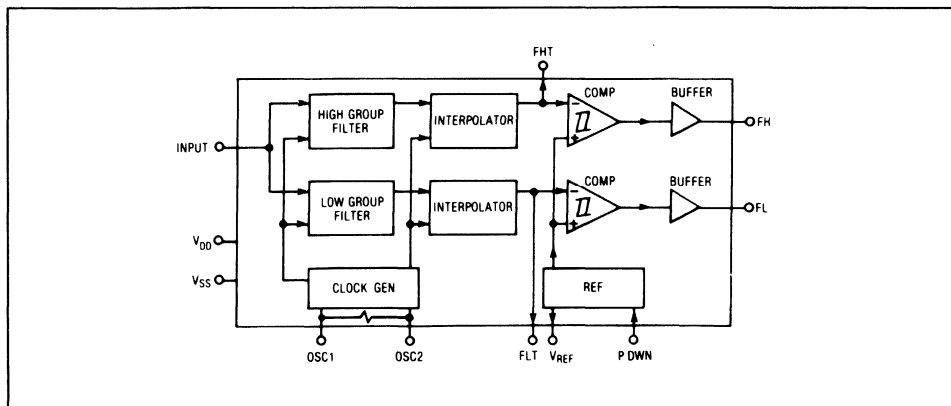

Fig.2 MV8865X functional block diagram
Within the MV8862(3) FL and FH signals are operated on by a complex averaging algorithm. This is implemented using digital counting techniques (Control/Discriminators, Fig.2) to determine the frequencies of the incoming tones and verify that they correspond to standard DTMF frequencies. When both high group and low group signals have been simultaneously detected, a flag *Est* (Logic High), is generated. *Est* is generated (cancelled) rapidly on detecting the presence (absence) of a DTMF tone pair (see Fig.3) and is used to perform a final validity check.